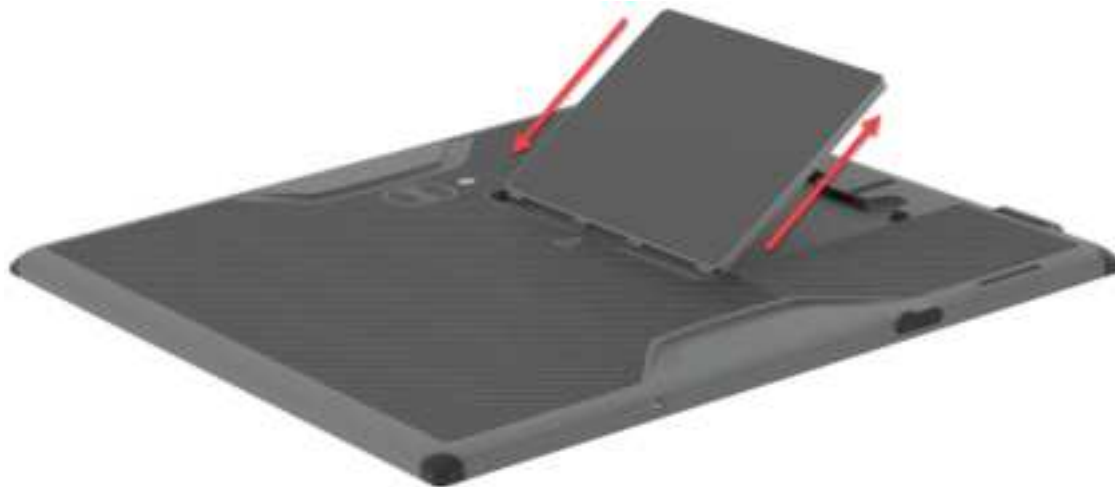

Figure 20 Reboot Sequence
- 2 Insert and remove the Battery **4 times within an 8 second window**, see Figure 20.